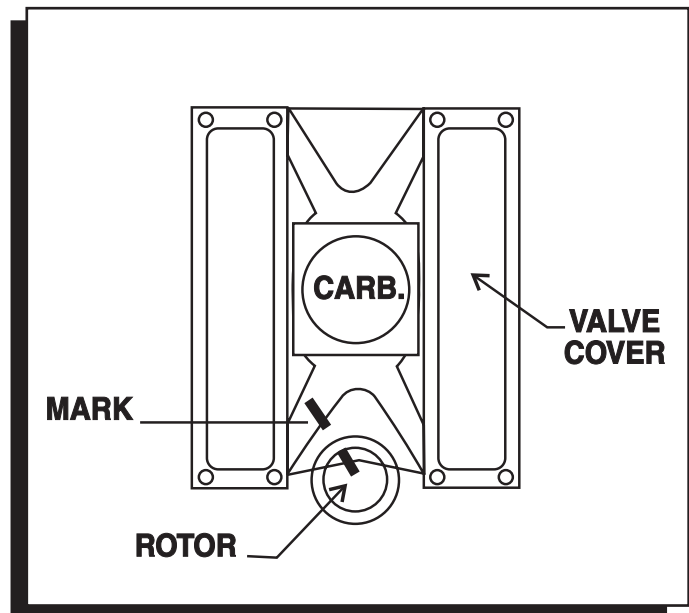

Figure 9 Marking the Rotor Location.
2. With the cap off, crank the engine until the rotor is aimed at a fixed point on the engine. Note this position by making a mark (Figure 9).